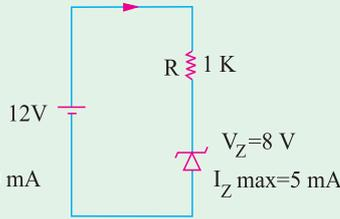

Fig. 54.37
2. Check up if the diode in Fig. 54.37 is biased properly for normal operation. What is the current taken by the diode ? [Yes : 4 mA]